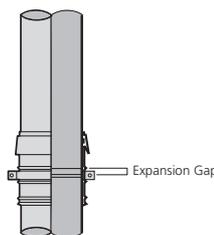

Fig.4d Expansion gap
Step 4 – Anchor the expansion joint with a pipe fixing bracket OR (if not practical) anchor a fitting within 1 metre of the joint on the downstream side of the expansion fitting (Fig.4d)